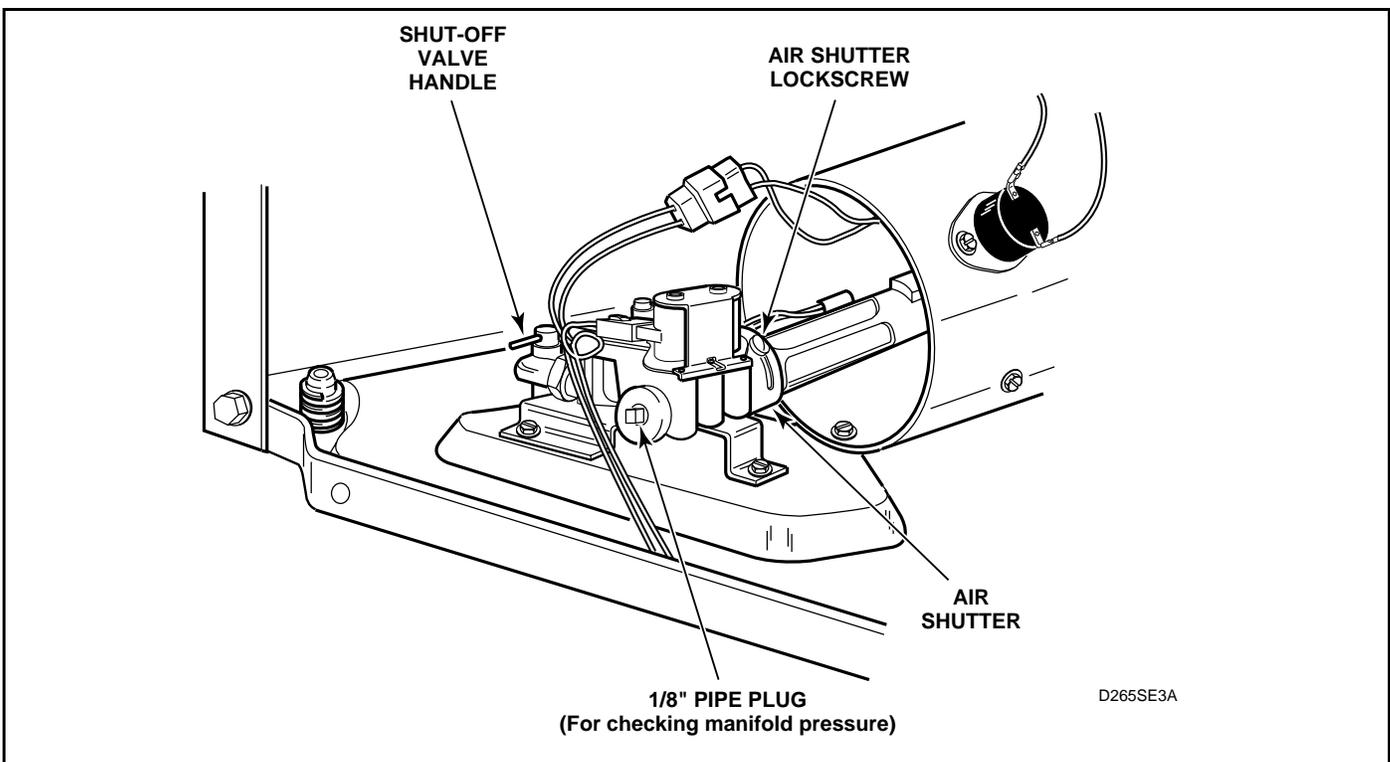

Figure 58
- g. After proper flame is obtained, tighten air shutter lockscrew firmly. See *Figure 58*.